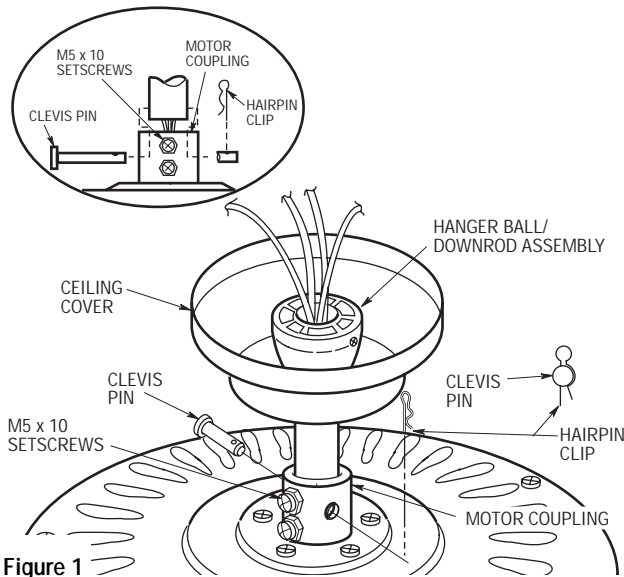

Figure 1
- 1. Pass the 42" motor leads through the opening in the ceiling cover. Be sure the cover is oriented correctly (Figure 1).
- 3. Loosen the two screws in the motor coupling. Align the clevis pin holes in the downrod with the holes in the motor coupling. Install the clevis pin and secure with the hairpin clip (Figure 1). The clevis pin must go through the holes in the motor coupling and the holes in the downrod. Be sure to push the straight leg of the hairpin clip through the hole near the end of the clevis pin until the curved portion of the hairpin clip snaps around the clevis pin. The hairpin clip must be properly installed to prevent the clevis pin from working loose. Pull on the hanger ball to make sure the clevis pin is properly installed.
- 4. While pulling up on the hanger ball, securely tighten the two setscrews in the motor coupling (Figure 1).